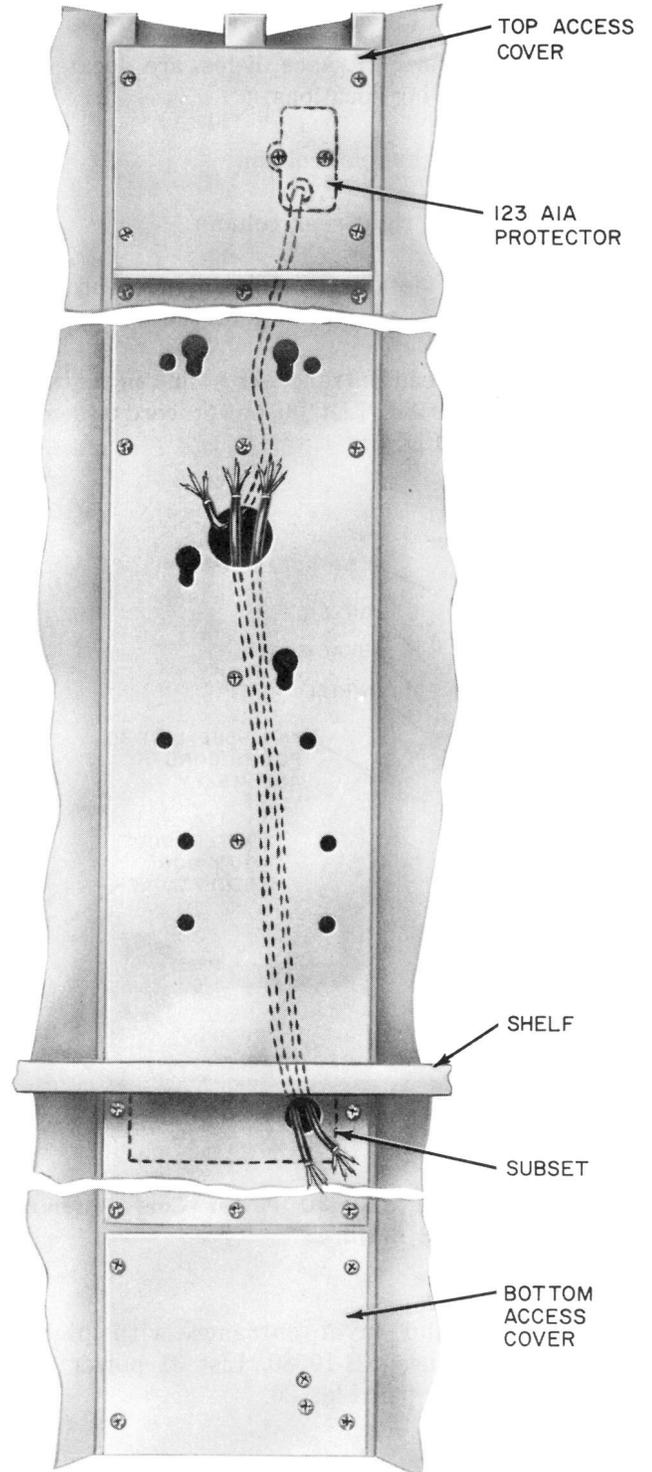

Fig. 18—Station Wiring
3.09 Station connection wires are furnished as shown in Fig. 18. Complete connections are